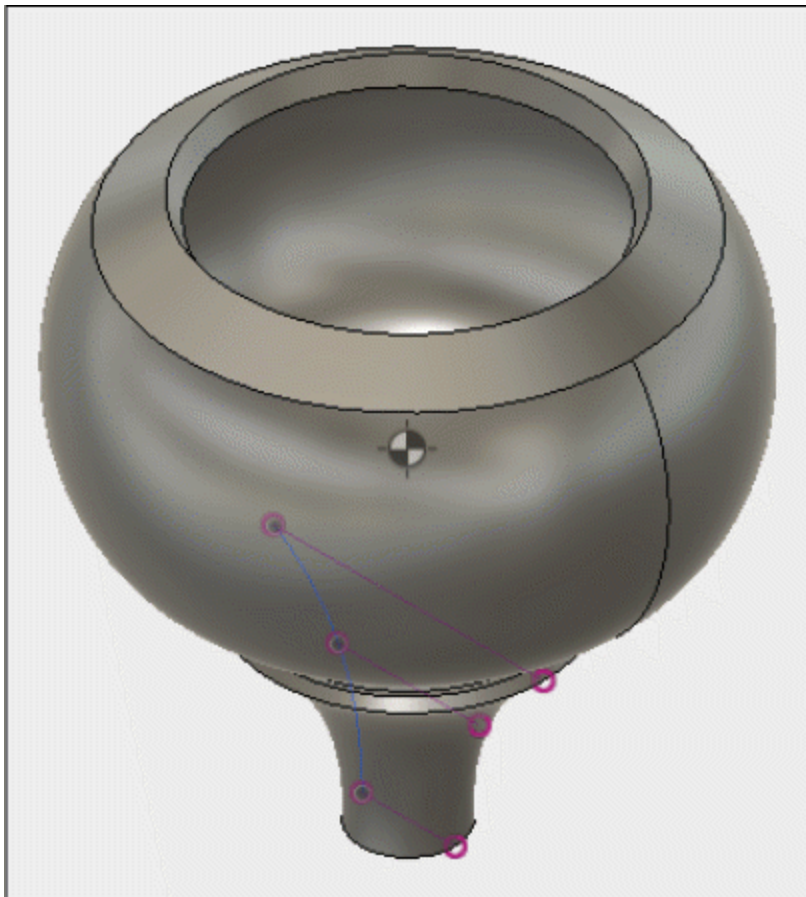

Figure-73. Center of mass of the body
- You need to select the body and click on **OK** button from **CENTER OF MASS** dialog box. The center of mass of the body will be displayed; refer to Figure-73.